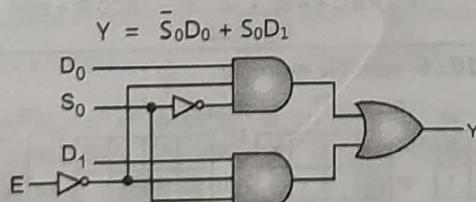

Fig. 2.24 : Logic circuit of 2 : 1 multiplexer
- Table 2.2 shows truth table and Fig. 2.24 shows the logic circuit diagram of 2 : 1 multiplexer.